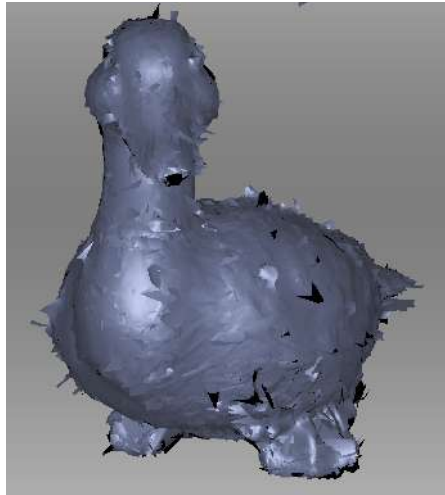

Figure 83: Alignment result.
3. Click *Align*. The result should be as Figure 83 depicts. If you are dissatisfied with this result, click ↶ and follow the recommendations in *Manual Rigid Alignment with Points*.